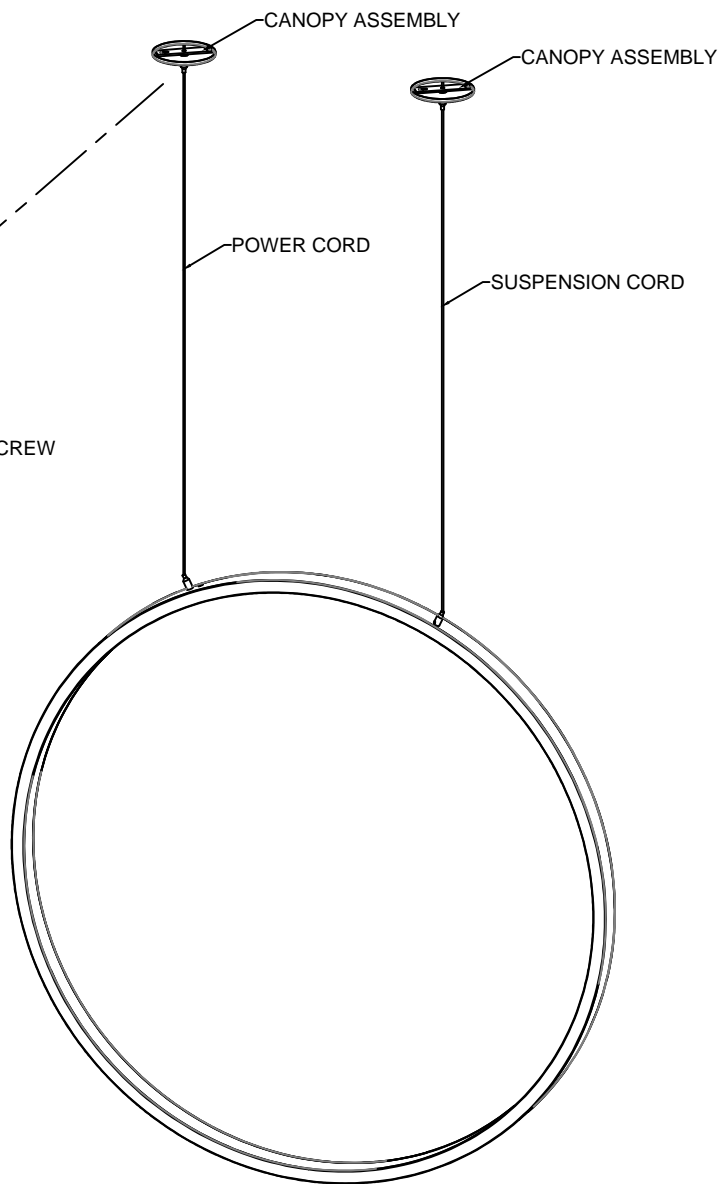

FIGURE 5
2. Lift the fixture and attach the loose end of the power cord and suspension cord to the each glider - see FIGURE 5